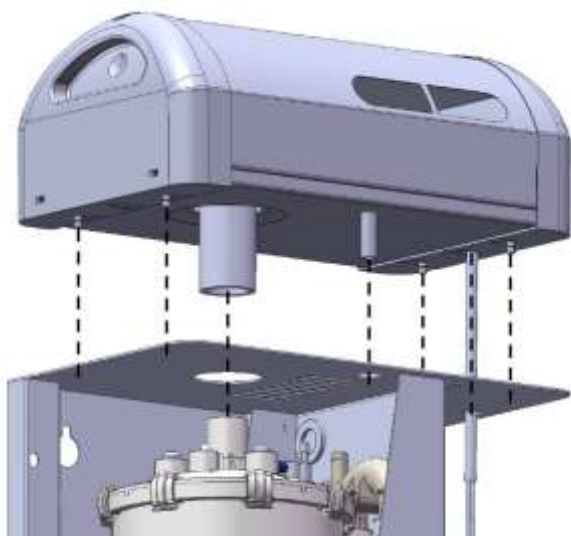

Fig.2
4. Place the head on top of humidifier, insert steam pipe, drain pipe and power cable in the hole. (**Fig. 2**).